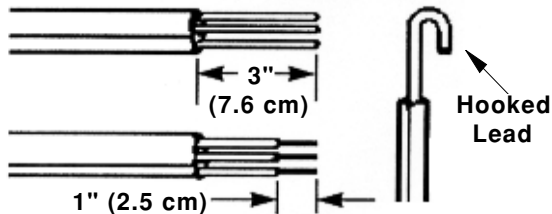

Figure 2-5
2. If the power supply cord does not have eyelets installed on the leads, prepare the leads, as shown in Figure 2-5.